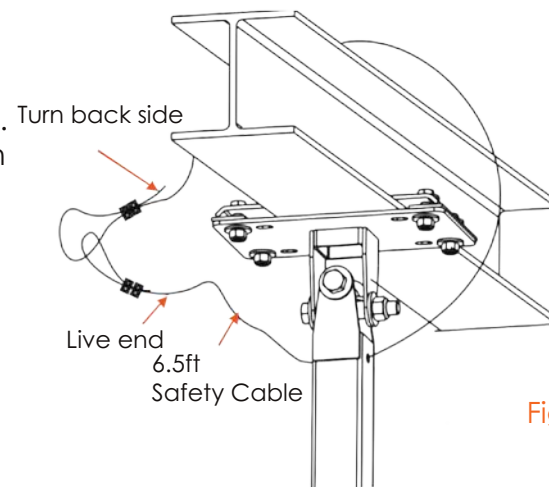

Fig.8
2. Insert the bolts, washers and tighten the nylocks. [Fig.8]
3. Position the safety cable as per Fig.8, loop at both ends.